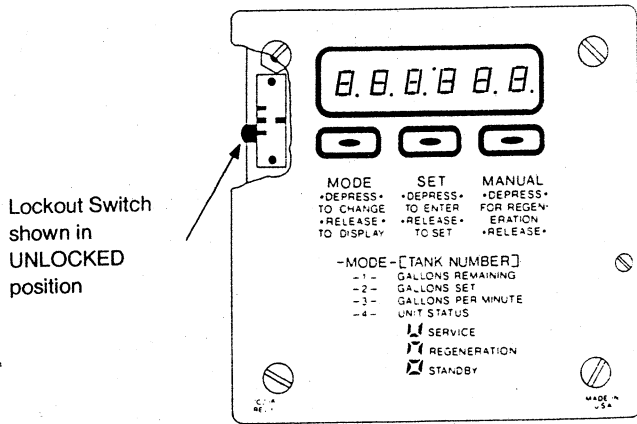
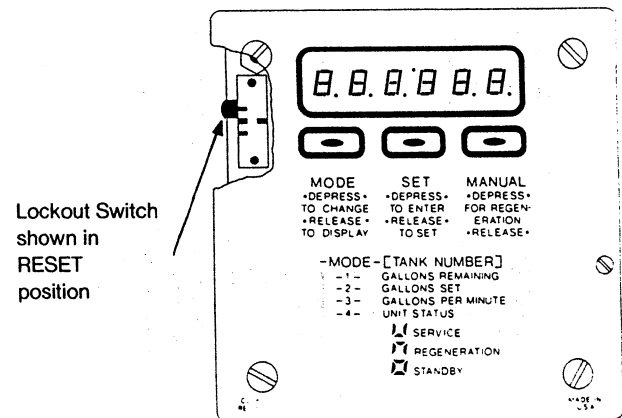

Figure 1
Figure 3
1) Figure 1 shows the faceplate of the 480 control. Before connecting power to the control, check that all of the wiring is correct. Be sure to observe all local codes. Be sure that the control is set in the proper system. Check that the Lockout Switch is in the lower, or UNLOCKED position. When power is first connected to the control, the display will show six 8's (Figure 1). If the six 8's do not appear or the display shows something other than the six 8's, consult the Installation, Operation and Maintenance Manual or the Trouble-shooting Guide supplied with the unit. In this example, a D/3 system is used.
The 480 control can be reset by moving the Lockout Switch to the RESET (upper), position (Figure 3), depressing the SET button, then releasing. When the control is reset, the display will show six 8's, and any information stored in the microprocessor will be erased. The 480 control must now be reprogrammed. Remember to move the Lockout Switch back to the UNLOCKED position after a reset is complete (Figure 1).